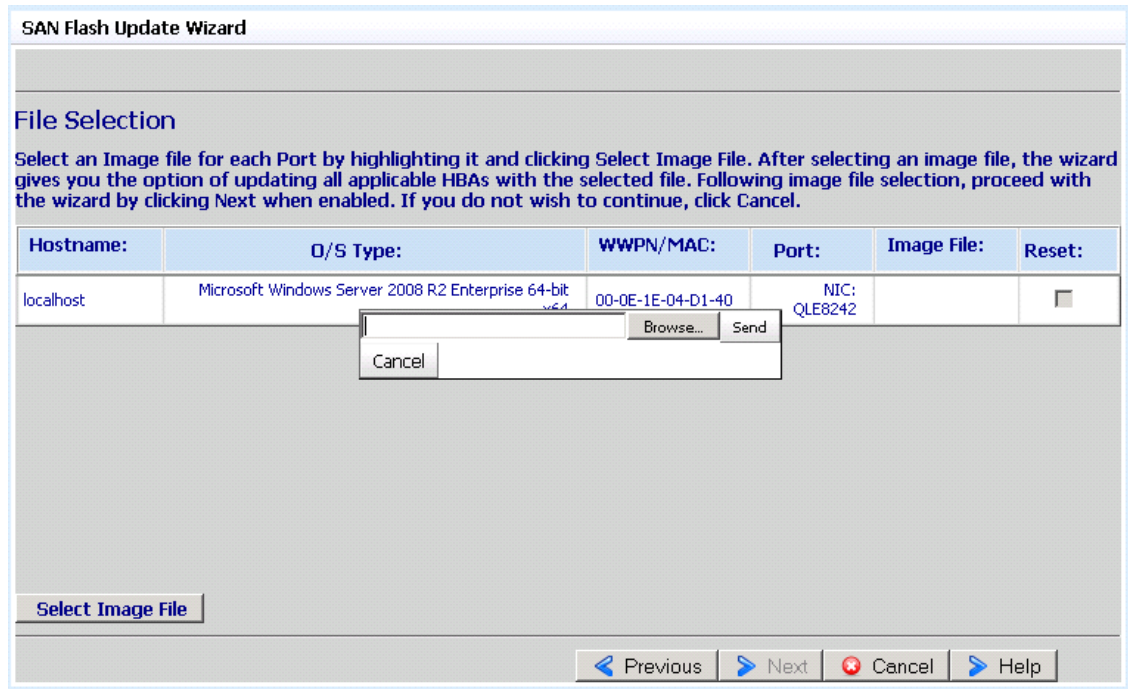

Figure 94 File Selection window
6. The **File Selection** window displays, as shown in Figure 94.
A pop-up window displays, as shown in Figure 94, that lets you locate and upload the firmware file.